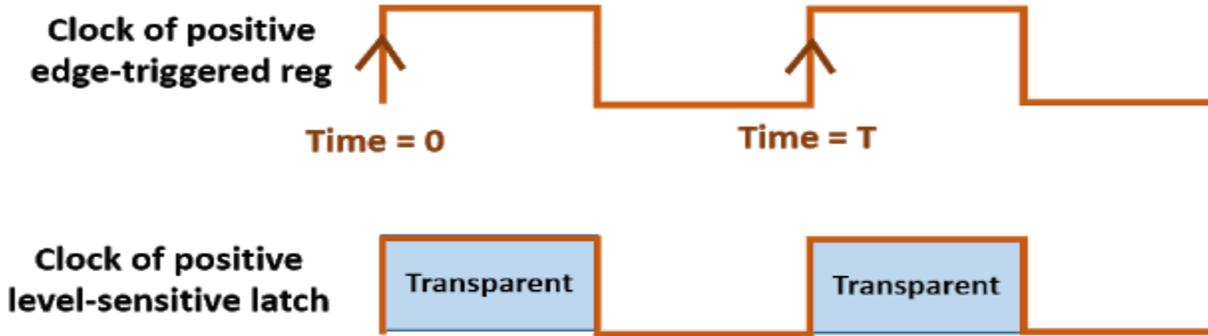

Figure 2: Zero cycle setup check from positive edge-triggered flip-flop to positive latch
**Why setup check for positive edge-triggered register to positive level-sensitive latch:** Similar to the above case, figure 2 shows the clock wave-forms for positive edge-triggered flip-flop to positive latch timing paths. The flip-flop can launch data at either "**Time = 0**" or "**Time = T**". So, data will be available at its output at either "**Time = 0+**" or "**Time = T+**". The latch can capture the data at the same instant as it launched as it is transparent at that time. So, setup check is considered to be zero cycle in this case.